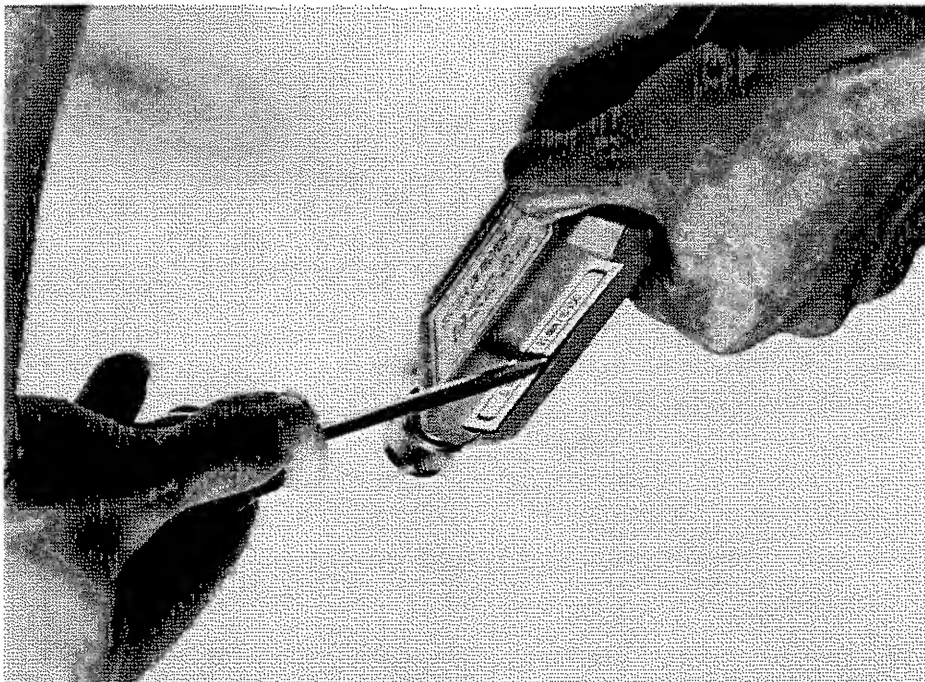

Figure 2. Cover Removal.
1. Place the detector adapter so its narrow side is on a flat surface. Position it so that the RF connector is facing away from you. Refer to Figure 2.